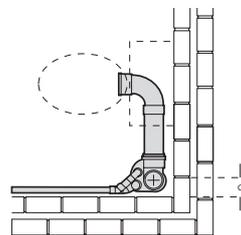
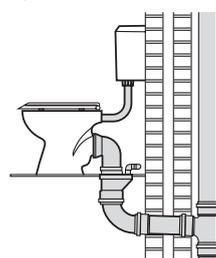

Fig.33b Internal soil stack connection (1st floor) plan
Fig.33c External soil stack connection (1st floor) elevation
■ May be positioned neatly in corner of room for connection to internal (Fig.33b) or external (Fig.33c) soil stack